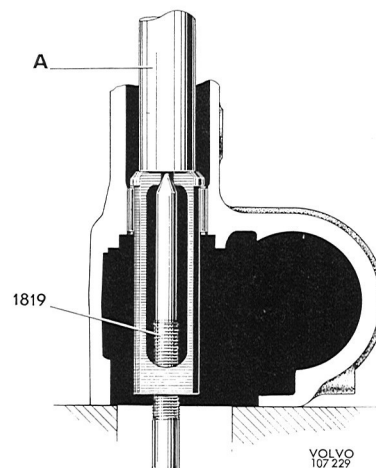
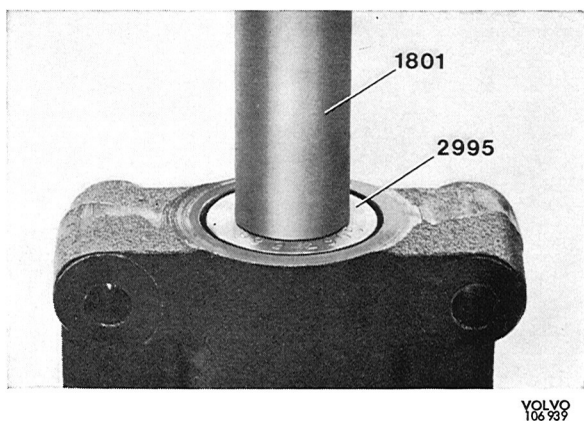

Fig. 6-83. Removing needle bearing
Fig. 6-84. Installing needle bearing
3. Check the needle bearings in the housing and the cover for damage. Replace if necessary. For removal, use tool 1819 (Fig. 6-83) and for pressing in, drift 2995 and handle 1801 (Fig. 6-84).